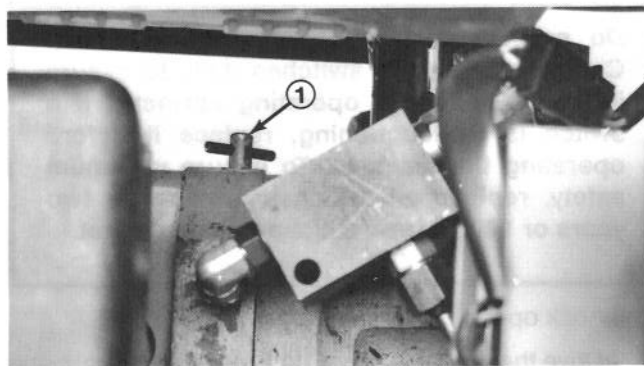

Figure 32
1. Reach under traction unit and rotate by-pass valve (Fig. 32) 1/2 to 1 turn counterclockwise. Opening the valve opens an internal passage in the transmission, thereby by-passing transmission oil. Because fluid is by-passed, traction unit can be moved without damaging the transmission.